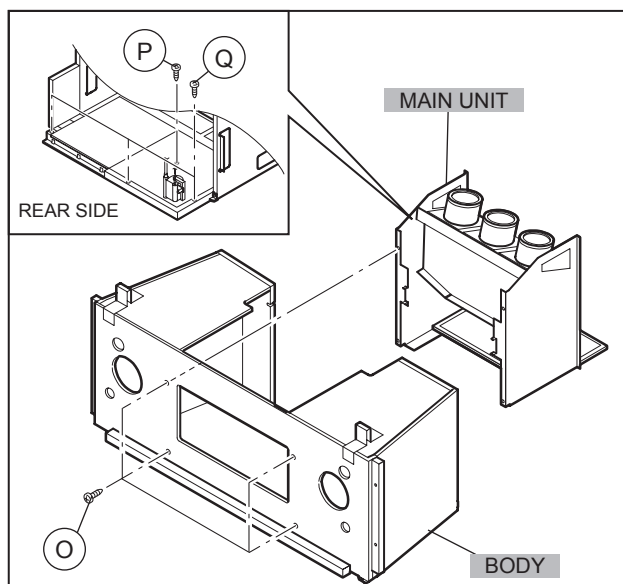

Fig.7
- (1) Remove 2 screws [ X ] both side of the MAIN CHASSIS.
- (2) Remove 1 screws [ Y ] attaching the earth wire.
- (3) Remove 1 screw [ P ] attaching the MAIN CHASSIS and BODY.(Fig.7)
- (4) Pull out the MAIN CHASSIS for back side.